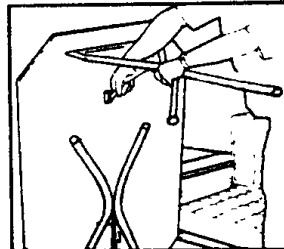

FIG. 15
37. Extend the legs completely so that both leg supports lock into position. Set table upright and check to insure dinette is stable. (See Figure 15.)